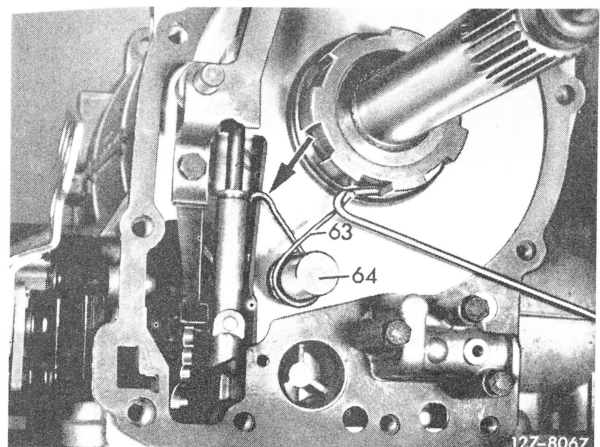
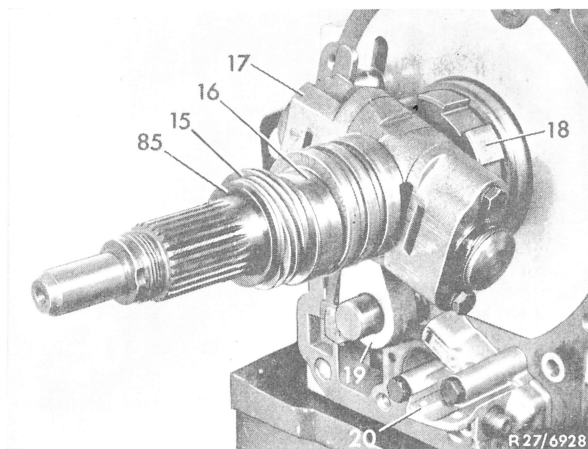

Fig. 38
Fig. 39
**64** Slide tensioning spring (63) on bearing bolt (64) and attach to transmission housing (refer to arrow). Pull tensioning spring (63) outwards by means of a tracer needle (Fig. 38) and slip-on parking lock pawl (19) (Fig. 39).
**65.** Check function of parking lock. Slip centrifugal governor (17) eccentric ring for secondary pump (16), worm gear for tachometer drive (15) and cup spring (85) on output shaft (Fig. 39).